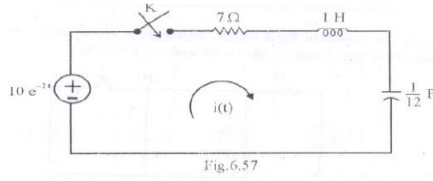

Fig.6.57
30. In the circuit shown in Fig.6.57, the switch. is closed at  $t. = 0$ , with zero initial conditions. Find  $i(t)$  using L.T. method.